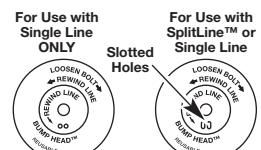

Fig. 28
**NOTE:** SplitLine™ can only be used with the inner reel with the slotted holes. Single line can be used on either type of inner reel. Use Figure 28 to identify the inner reel you have.